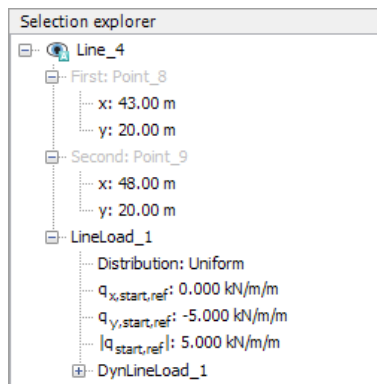

Figure 2.6 Components of the distributed load in the *Selection explorer*
- In the *Selection explorer* assign a value of -5 kN/m/m to the y-component of the load ($q_{y,start,ref}$) (Figure 2.6).